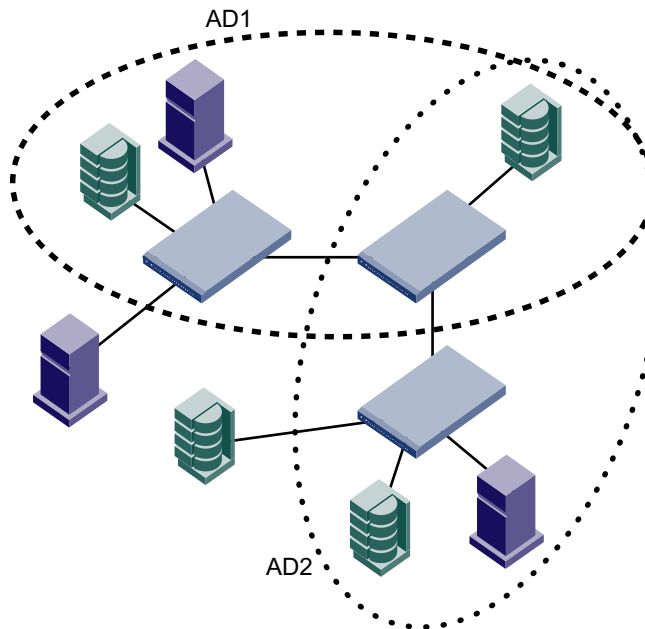
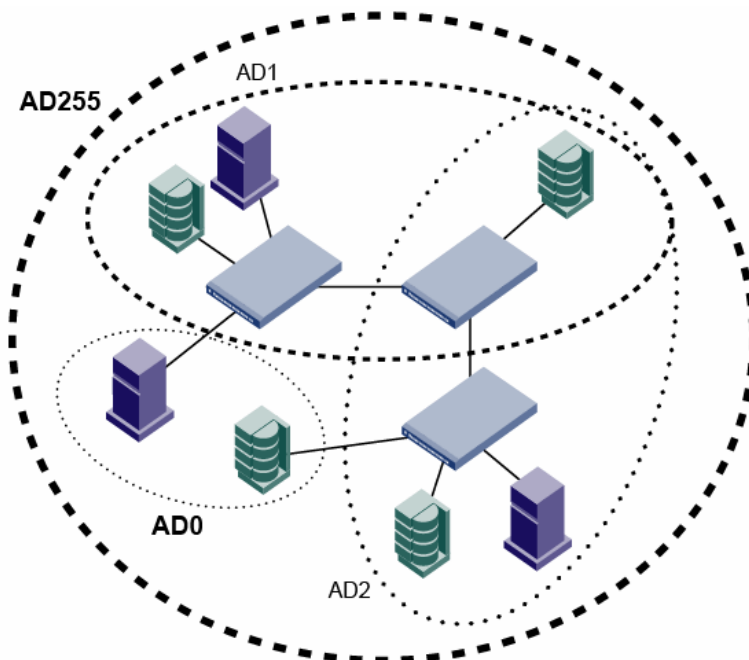

FIGURE 56 Fabric with two Admin Domains
FIGURE 58 Fabric with AD0 and AD255
Figure 56 shows a fabric with two Admin Domains: AD1 and AD2.
- Share resources across multiple Admin Domains. For example, you can share array ports and tape drives between multiple departments. In Figure 56 on page 340, one of the storage devices is shared between AD1 and AD2.
In Figure 56 on page 340, AD1 and AD2 are user-defined Admin Domains.
Figure 58 on page 344 shows the same fabric from Figure 56 on page 340, but with ADO and AD255 shown. ADO contains the two devices that are not in any of the user-defined Admin Domains (AD1 and AD2). AD255 always encompasses the entire physical fabric.